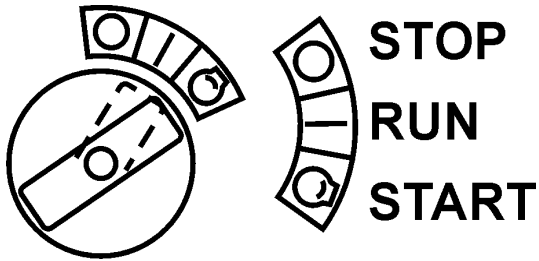

Figure 17. Starter Key
3. Insert the starter key into the key switch and turn it to the **RUN** position (Figure 17).